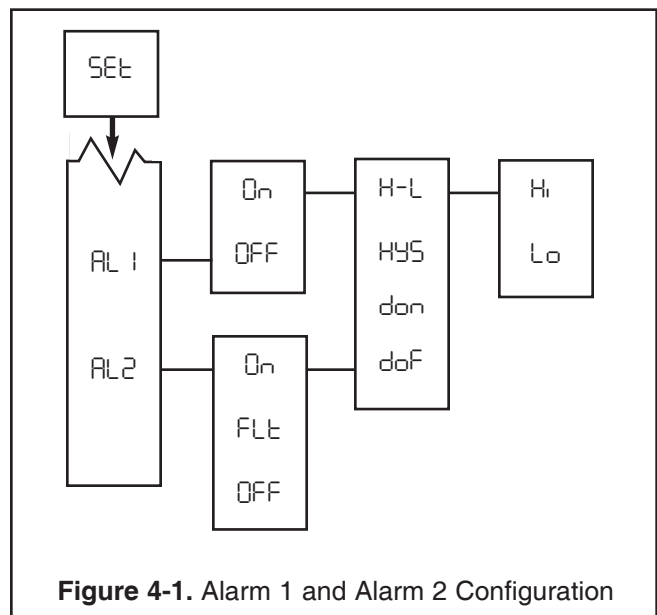

Figure 4-1. Alarm 1 and Alarm 2 Configuration
4.2.1 Alarm Configuration (AL 1/AL2). Refer to Figure 4-1.